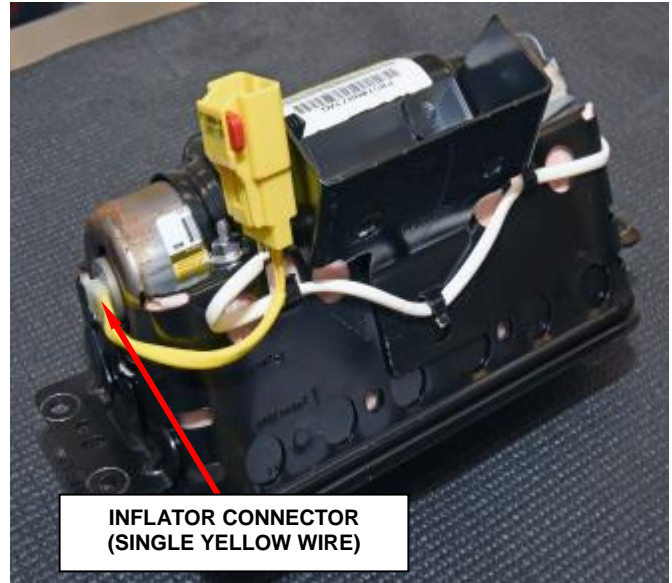

Figure 49 – Inflator Connector
b. Use pliers to grasp the single yellow wire inflator connector then wiggle as you pull up until it is disconnected from the inflator (Figure 49).